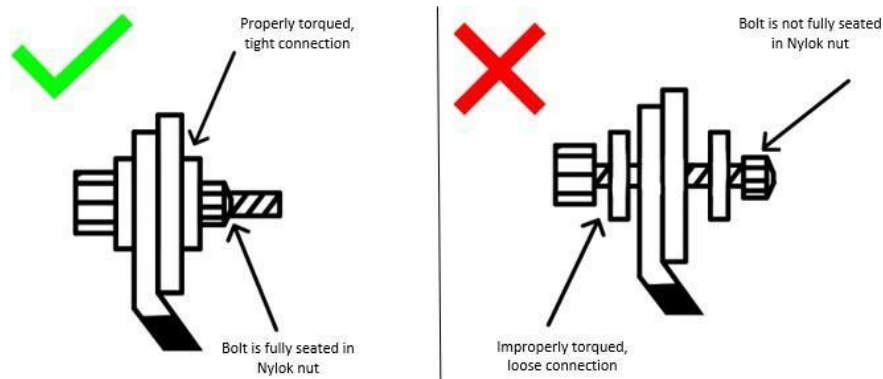

Figure 2: Proper and Improper Terminal Connections
4. When connecting to your battery terminals, **DO NOT** finger tighten. Use a torque wrench to torque your hardware to the specification of 9 to 11 ft-lbs. Failure to adequately secure connections can result in severe damage and will void your warranty. Fig. 2 below demonstrates proper and improper connections.